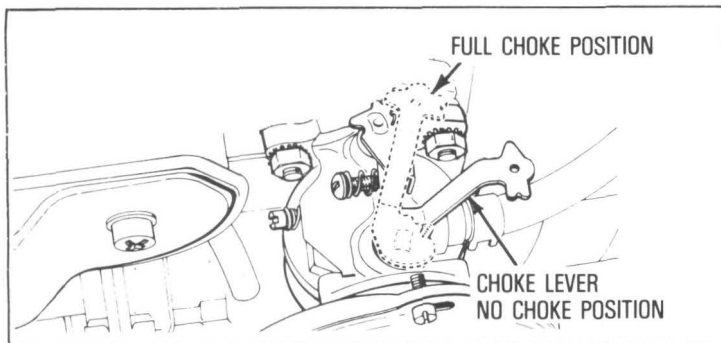

Fig. 2
- A. Move Choke Lever on engine (see Figure 2) or remote control on equipment to **Full Choke Position**.